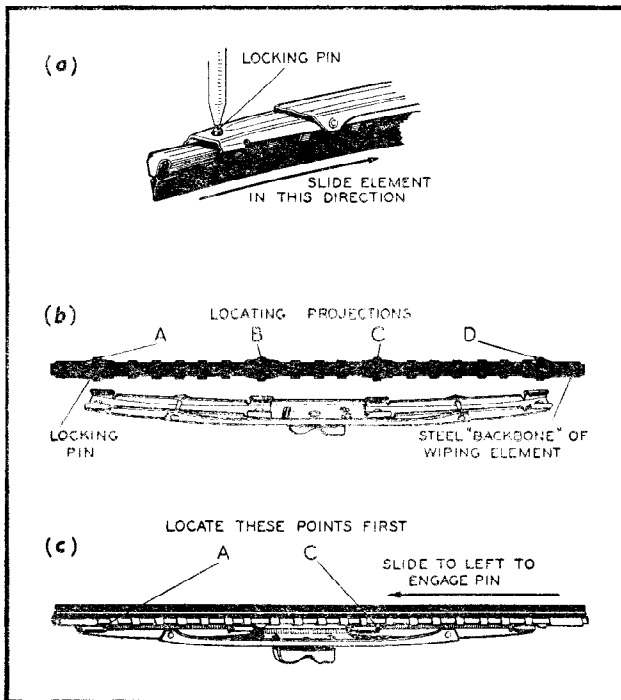

Fig. 6
- (i) To replace a defective element on a standard 'Rainbow' blade proceed as described below: Press down the locking pin and slide the old element in the direction shown in Fig. 6 (a) to free it from the body of the blade.
There are four pairs of locating projections on the 'backbone' of the new wiping element as shown in Fig. 6 (b). When fitting, first locate the element projections 'A' and 'C'. Then guide projections 'B' and 'D' into position and slide the element to the left, as shown in Fig. 6 (c) until the locking pin is heard to snap into position.